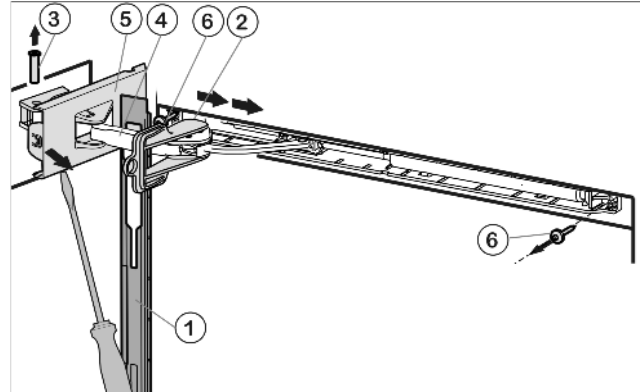

Fig. 55
- ▶ Push panel forward over the damper bracket Fig. 55 (4) in the direction of the appliance.
- ▶ Engage locking device Fig. 55 (2) into place inside oblong hole.
- ▶ Unscrew cover that is on the hinge side Fig. 55 (5) until the first notch using a screwdriver.
- ▶ Push bolt Fig. 55 (3) out from below.
- ▶ Press damper bracket Fig. 55 (4) in the direction of the door.
- ▶ Completely loosen cover that is on the hinge side Fig. 55 (5) and remove.
- ▶ Remove panel Fig. 55 (1).
- ▶ Unscrew soft stop unit (2 x Torx 15) Fig. 55 (6).